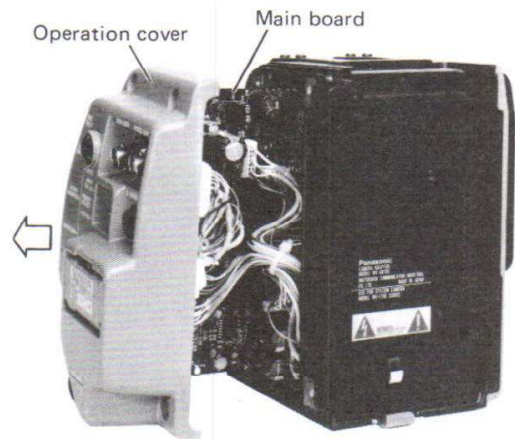

Fig. 2-2-4
- Pull the operation cover with the Main board backward. (Fig.2-2-4)